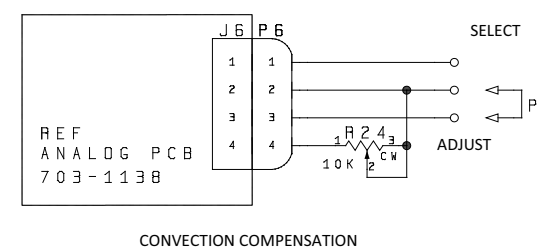

Figure 66: Digital PCB Schematic (ref. 700-1316, Rev. H, SH2)
- Figure 66, "Digital PCB Schematic (ref. 700-1316, Rev. H, SH2)," on page 77